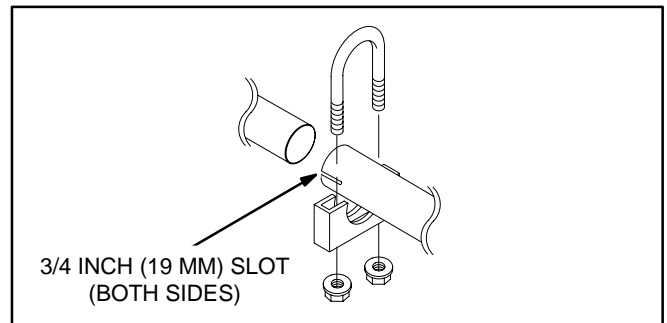

FIGURE 5. EXHAUST TAIL PIPE CONNECTIONS
2. Use U-bolt muffler clamps (available from Onan) for tail pipe connections. Overlapping pipe should be slotted (Figure 5).